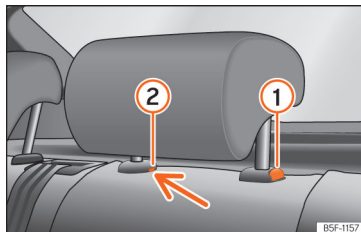

Fig. 107 Rear headrest: removal.
- Press button »» Fig. 107 ①, while simultaneously pressing on the security hole ② with a flat screwdriver a maximum of 5 mm wide, and remove the headrest.